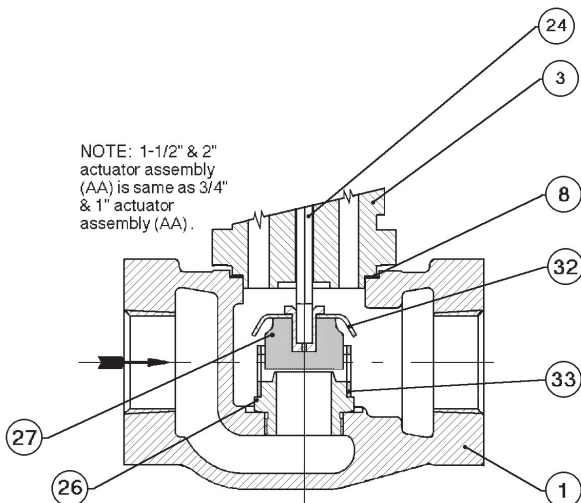

Figure 6
1. Place body (1) into a vise and secure. Paint or embed a match mark between lower case (3) and body (1).
2. Loosen both cap screws (11) bolting the actuator assembly (AA) to the body (1). Holding the actuator assembly (AA) in hand, rotate cap screws (11) to removal. **NOTE:** *The actuator assembly (AA) may be rotated around the stem (24) axis during this procedure.*
3. Place actuator assembly (AA) in a vise or on a workbench to allow cleaning of the gasket (8) surface of the lower case (3) with a flat tool. Use spray solvent as necessary (do not immerse).
4. Remove “rubber” seat (27) from end of stem (24); examine and discard. Place new seat (27) onto end of stem (24). For sizes 1-1/2" and 2" (DN40 & 50), a deflector ring (32) is included. Ensure the proper orientation of the deflector ring (32) when pushing the new seat (27) into position. (See Figure 6.)